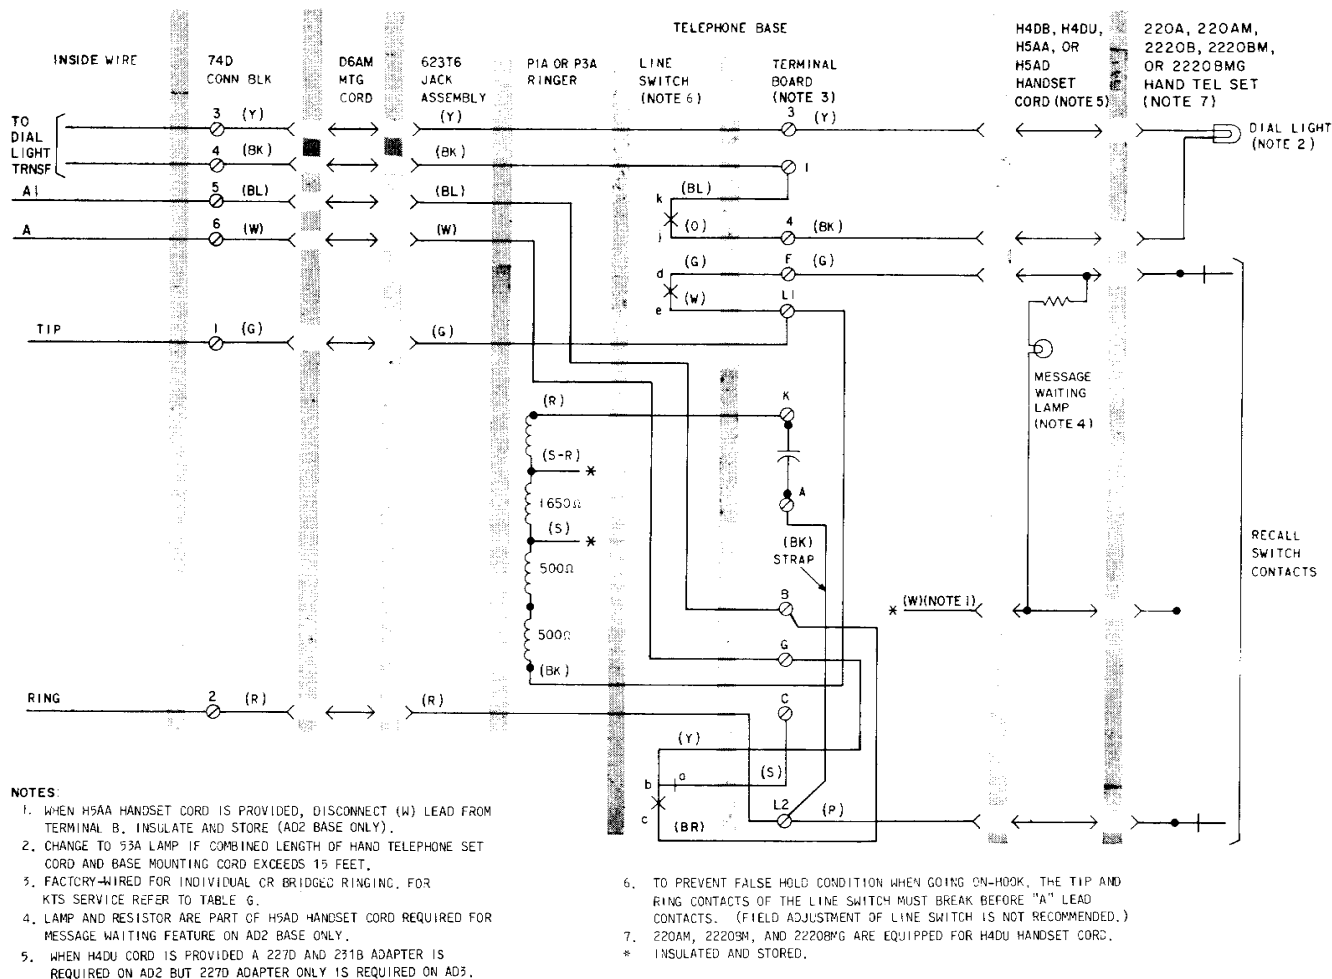

Fig. 10—AD2 or AD3 Telephone Base Wired for 1A1, 1A2, 6A, or 6B KTS With Dial Light Using 220A (MD), 220AM, 2220B (MD), 2220BM, or 2220BMG Hand Telephone Set
1.13 To provide dial light (220A, 220AM, 2220B, 2220BM, or 2220BMG only) with 1A1, 1A2, 6A, or 6B KTS, a 623T6 jack and D6AM mounting cord must be ordered separately. Only the AD2 and AD3 bases can be wired for this type service. Refer to Fig. 10 and Table G for connections.